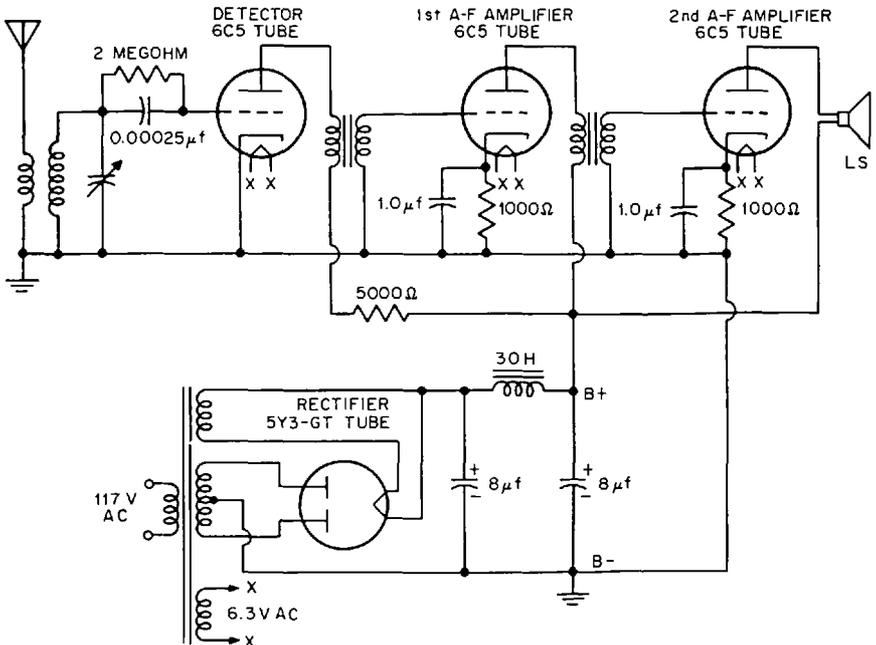

Fig. 20-6. Diagram showing the circuit of an all-electric receiving set.
**The Complete No-Battery Receiver.** Having succeeded in eliminating all batteries, we are now ready to present our no-battery radio receiving set. This is shown in Figure 20-6. In this diagram, the wires connecting the filaments of the tubes to the step-down